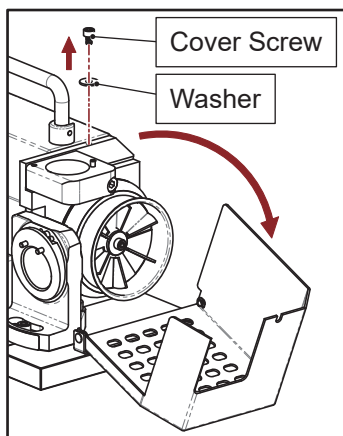

Fig. 16-2
③ Loosen the screw from the grinding wheel cover to open the cover. (Fig. 16-2)